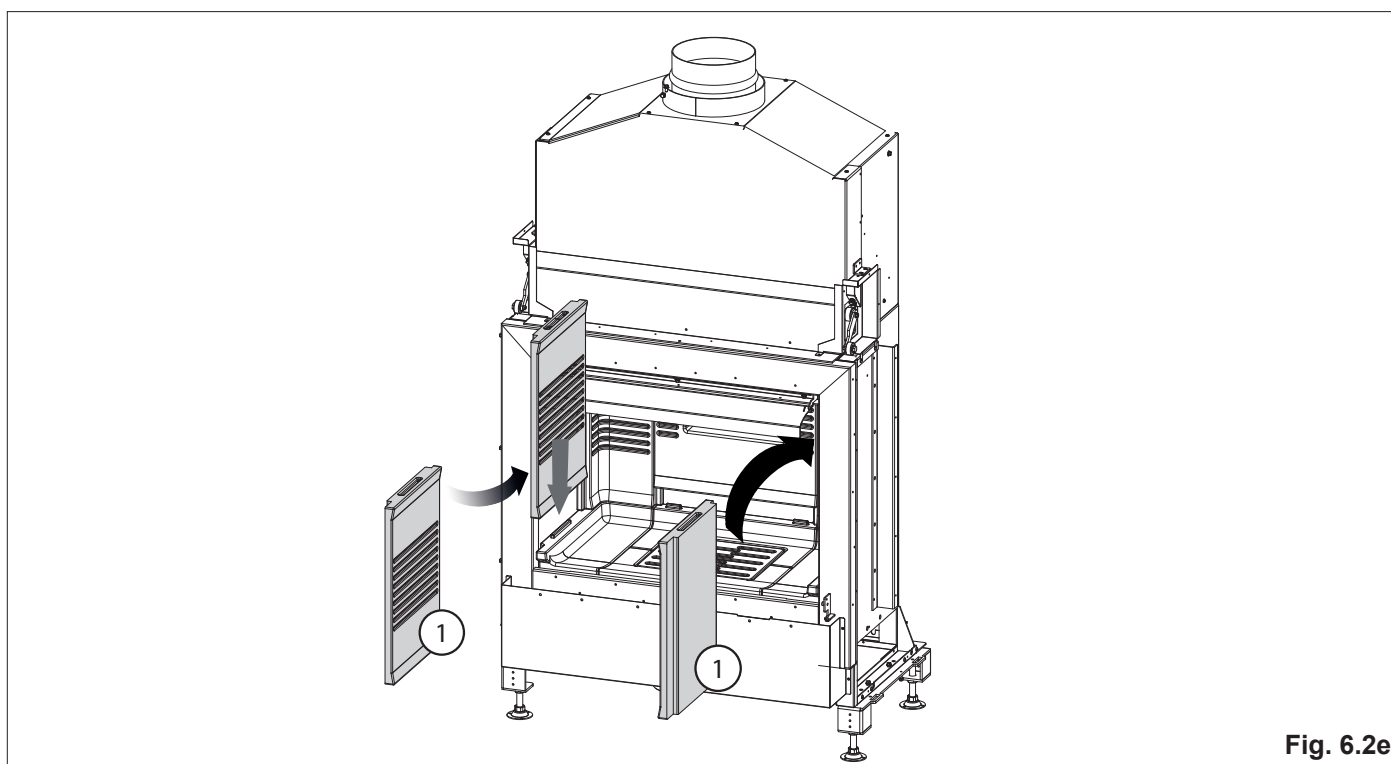

Fig. 6.2e
9. Mount the two side walls, one only for R and L version appliances, making sure to insert them in the dedicated guides (**Fig. 6.2e**).